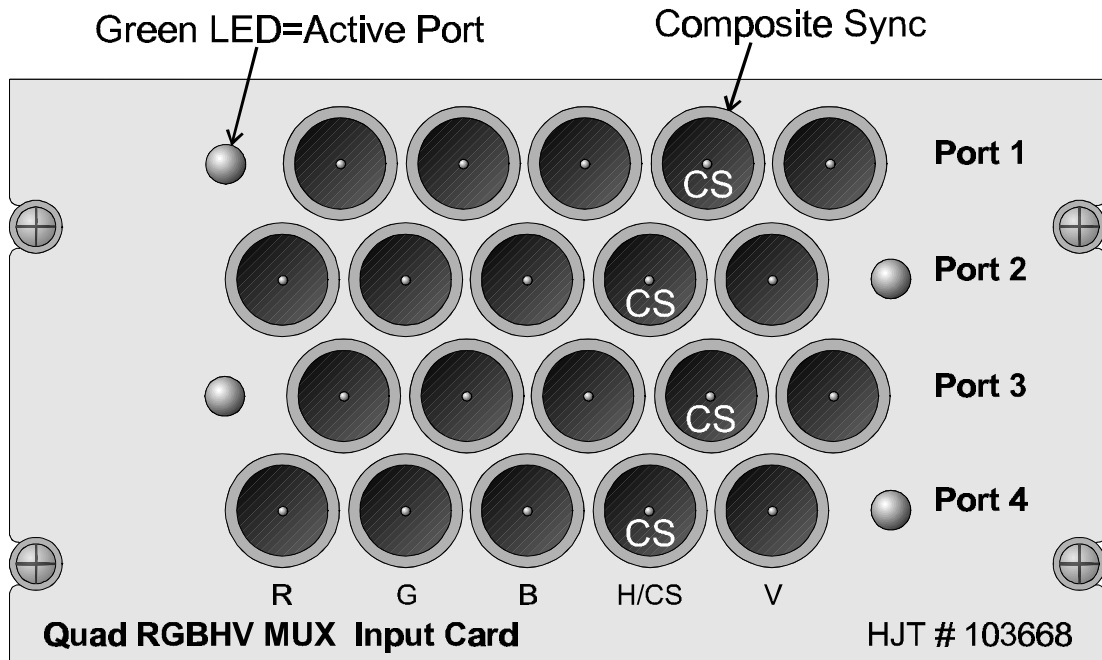

Figure 5-20 Quad RGBHV Multi-Port VIC
- ❑ For **Quad RGBHV Mux (multi-port) VICs**, connect the RGBHV cables to the input connectors on the port(s) to be used (see Figure 5-20). Due to their physical dimensions, these multi-port VICs can only be installed into Slot 2 or 3. If installed in Slot 2, another VIC can be installed in Slot 3 only. If installed in Slot 3, another VIC can be installed in Slot 1 only.